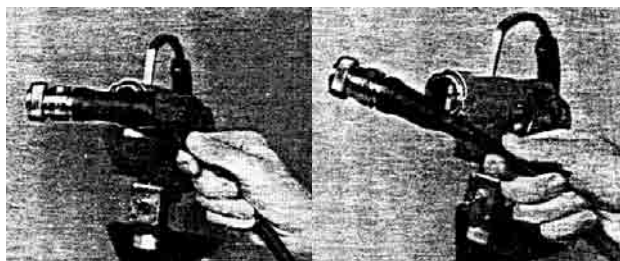

Figure 9. Shrinking Boot With Heat Gun
d. Shrink the boot starting at the connector end and proceeding to the cable end with a heat gun (Figure 9).